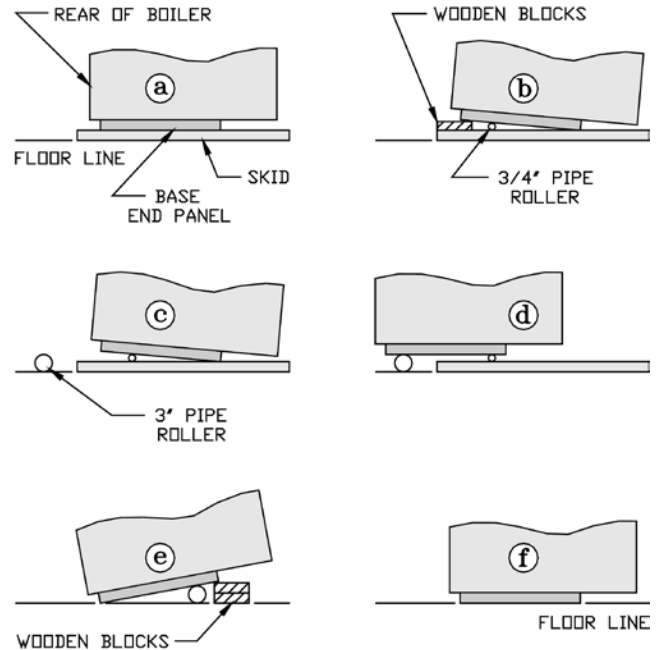

Figure 2: Skid Removal
B. Remove boiler from skid. See Figure 2. Exercise care to avoid dropping boiler.